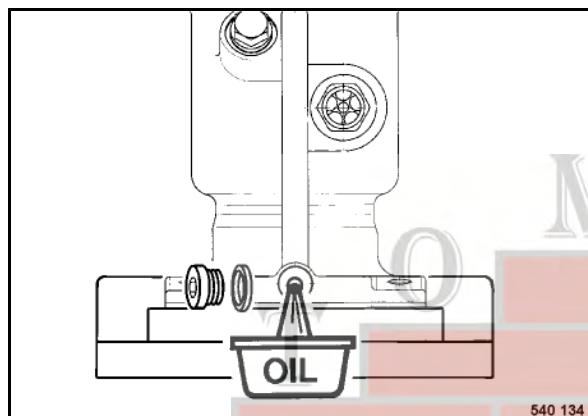

Fig. 56 □
- Clean and unscrew the oil drain plug (Fig. 56), let the old oil run out and catch it.